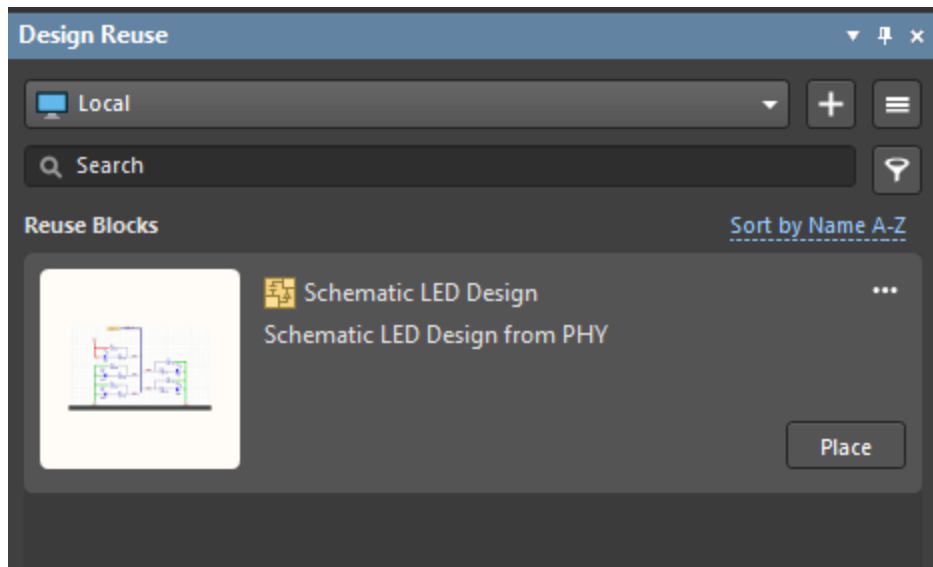

Figure 4. Snippet for Schematic
9. Ensure you have created the schematic snippet before proceeding to the next step. You'll see a thumbnail of the snippet in the *Design Reuse* panel as shown in Figure 4.